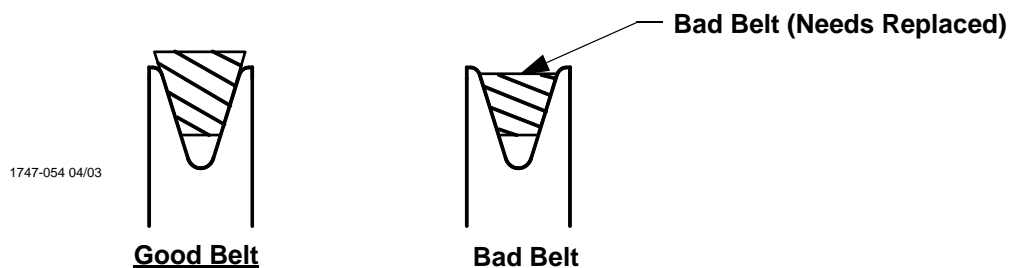

Figure 30. Belt Condition
- Periodically check the V-Belt and replace if necessary. A worn Belt will cause a substantial drop in Fan performance or it can break and cause Fan failure. If a Belt rides below the Sheave edge, replace the belt. (See **Figure 30** below)